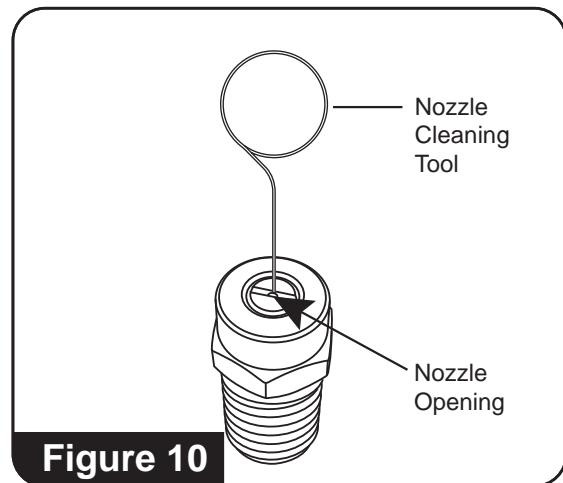

Figure 10
4. Using the nozzle cleaning tool, free any foreign material clogging or restricting nozzle openings. **(See Figure 10)**